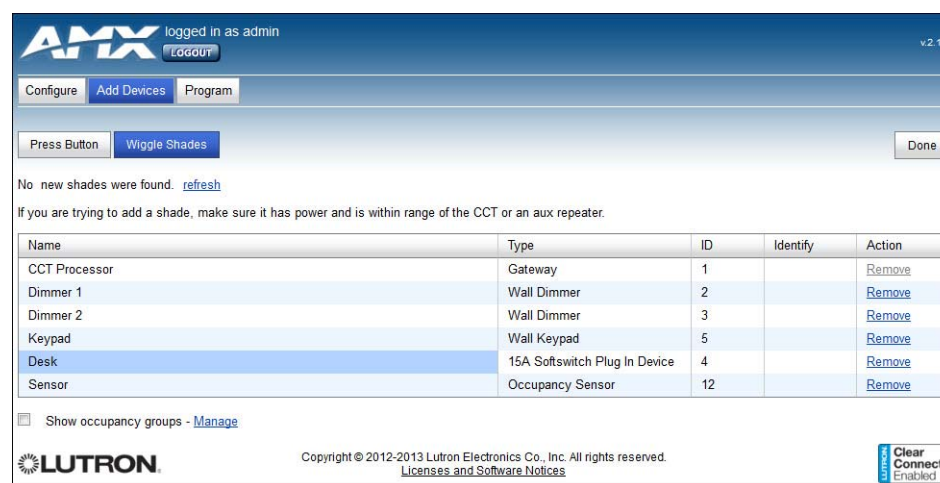

FIG. 32 No New Shades Found notice
2. If the NXB-CCG-K does not find available devices within its signal range, the *Wiggle Shades* function will state so (FIG. 32). You may try again by clicking the *refresh* link.